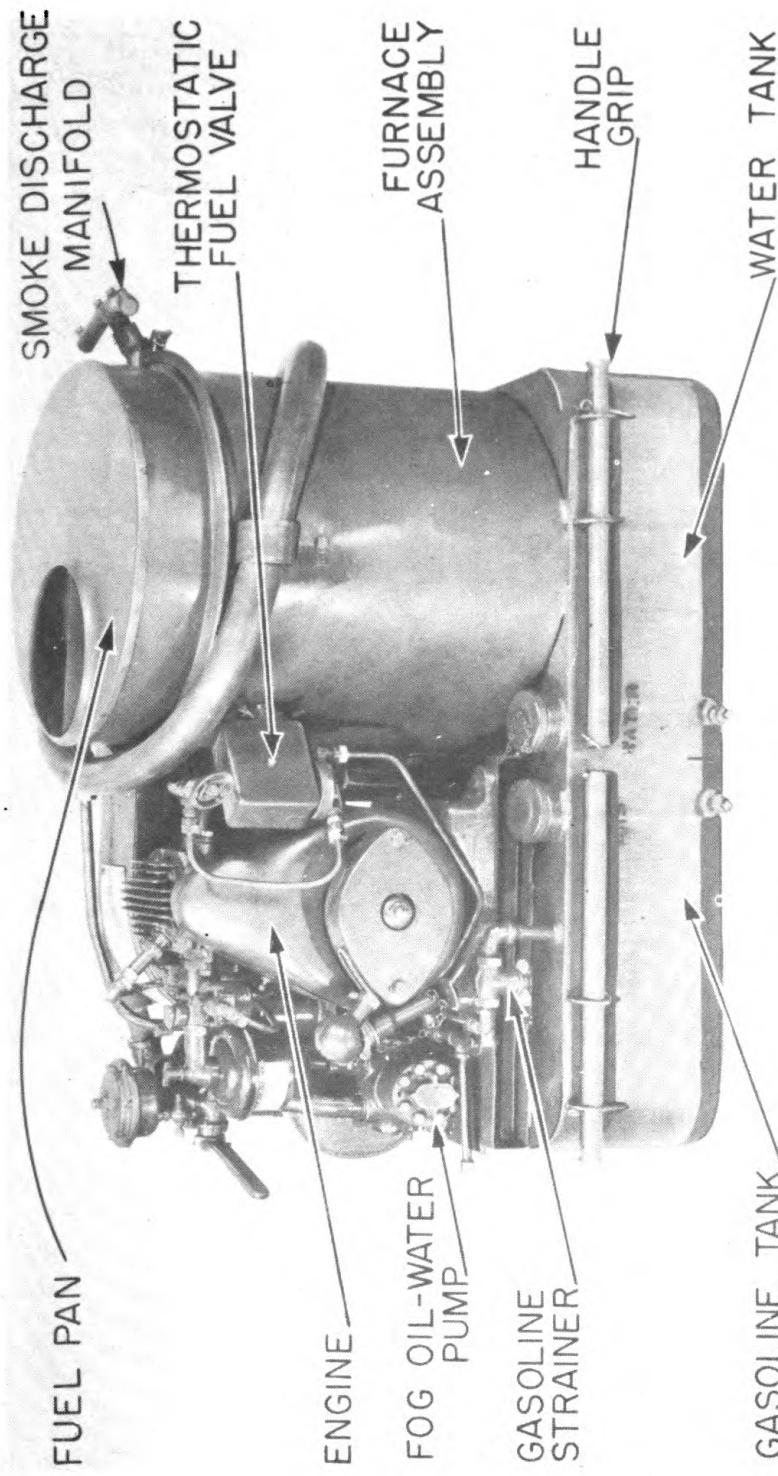
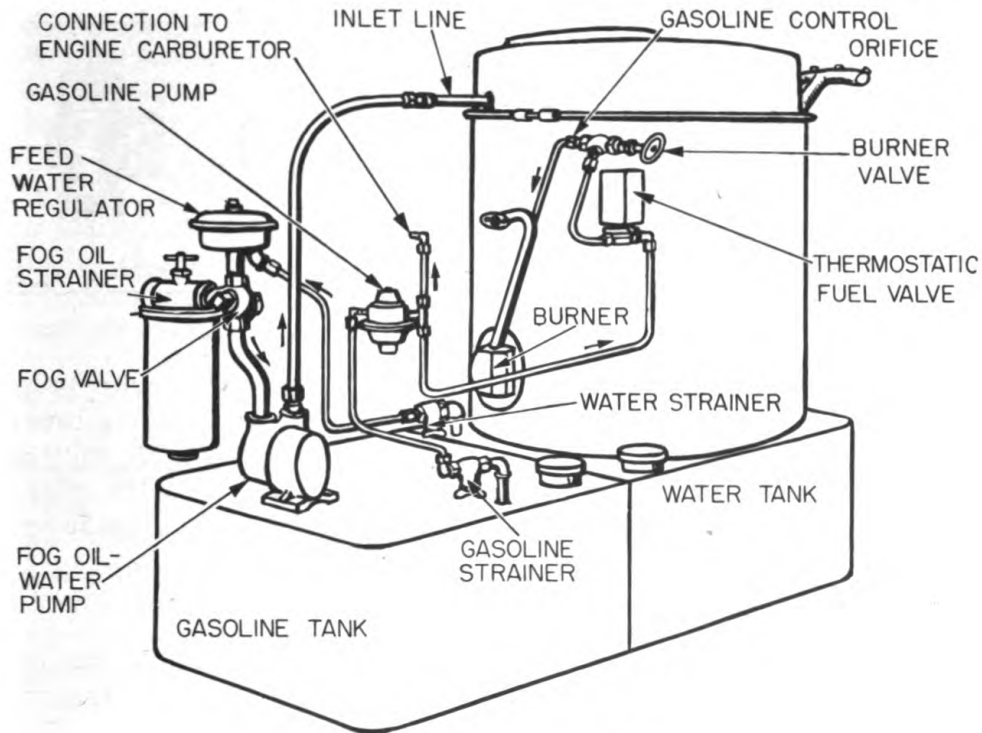
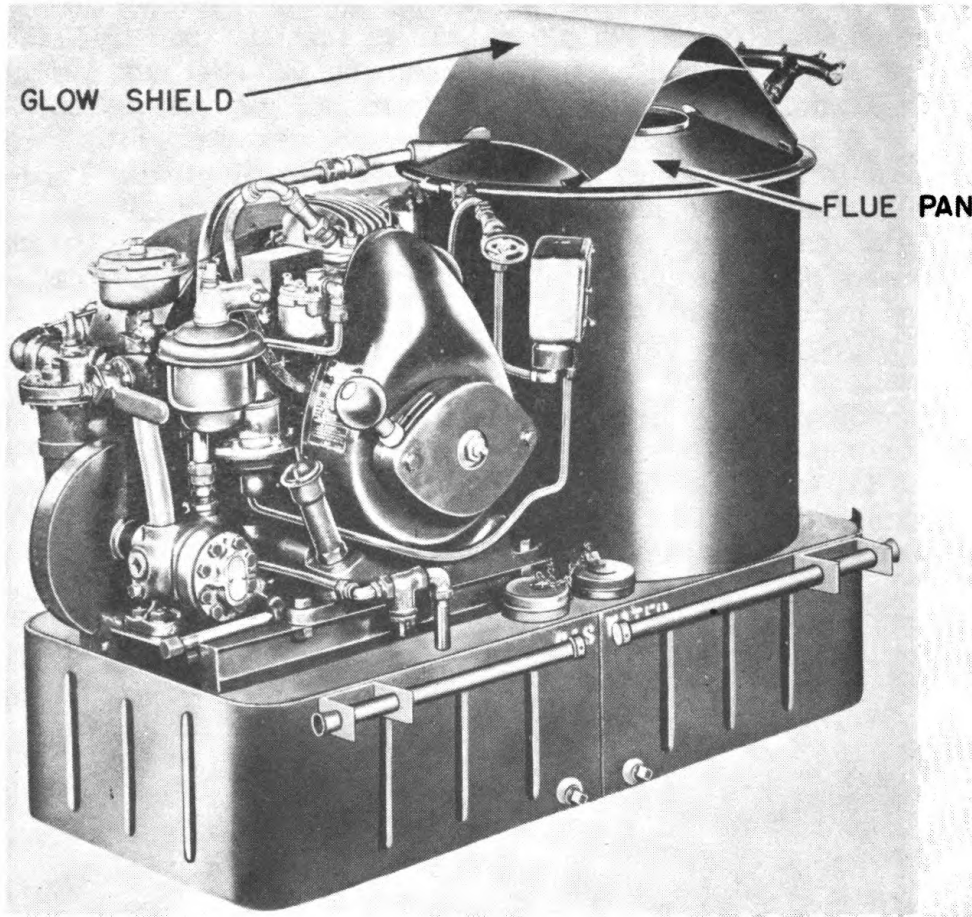

Fig 3. Specifications for generator.
Fig 8. Flow chart.
Fig 12. Earlier type M2 smoke generator.
a. **Major groups.** The parts of the mechanical smoke generator M2 (shown in figures 3, 4, 5, 6, and 7) fall into three major groups: power group, heating group, and smoke-fuel group. Main components of the power group are engine and ignition system. Main components of the heating group are furnace assembly, burner, burner valve, thermostatic fuel valve, and blower. Main components of the smoke-fuel group are fog oil-water pump, fog valve, and feed water regulator. Detailed discussion of essential parts of these three major groups is contained in paragraphs 36 through 107.
d. Characteristics. Specifications for generator and engine by which it is powered are given in figures 3 and 4.
a. Illustrations. Reference to figures 3, 4, 5, 6, and 7, showing main parts of generator, and to flow chart in figure 8, aids in explaining how generator functions.
c. Gasoline flow. (1) Suction. When the engine is started, the gasoline pump, which is part of engine, produces suction, drawing gasoline from its tank to pump.
(2) Discharge. The pump discharges the gasoline in two directions -- to the engine carburetor and to the thermostatic fuel valve. When the generator is cold, the thermostatic fuel valve
Only one model of the M2 generator is currently issued. Some of the earlier generators, however, have a different type of flue pan, as can be seen by comparing figure 12, showing an earlier unit, with a later unit as shown in figure 3. On the earlier unit, the flue pan rests flat on top of furnace assembly with a glow shield above it. Purpose of the shield is to hide from aerial observation the reddening of the steel by fire in the combustion chamber. On the later unit there is no shield, the glow being hidden by two baffle plates integrated into the flue pan itself. Further improvements of the generator are likely. Examine newly received units carefully and adapt instructions contained in this manual to any changes which may have been made.